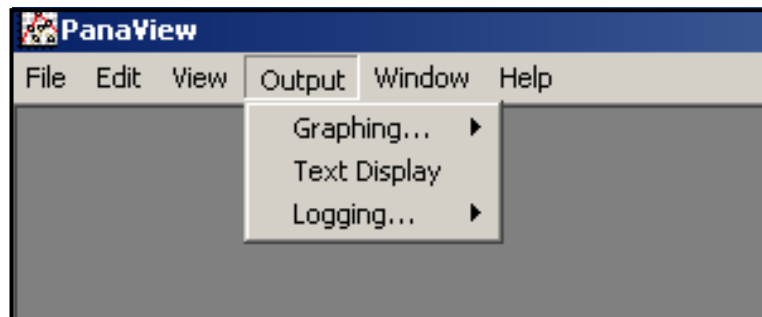

Figure 14: The Output Menu
1. In PanaView, pull down the *Output* menu, as shown in *Figure 14* below, and click on the *Text Display* option.